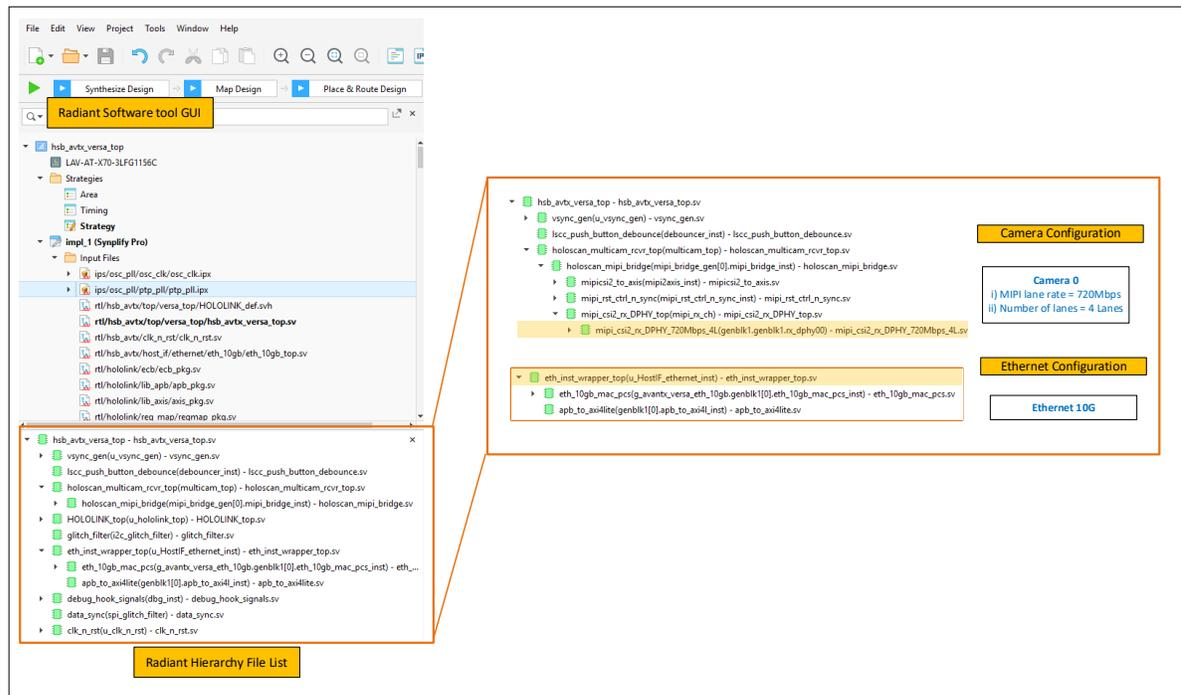

Figure 4.14. Lattice Radiant Software Hierarchy File
5. Verify the reference design configuration: Review the Lattice Radiant software hierarchy file list and the clock summary from the place-and-route timing report. Figure 4.14 shows the reference design in the Lattice Radiant software hierarchy file list. The reference design is now ready for compilation and implementation.